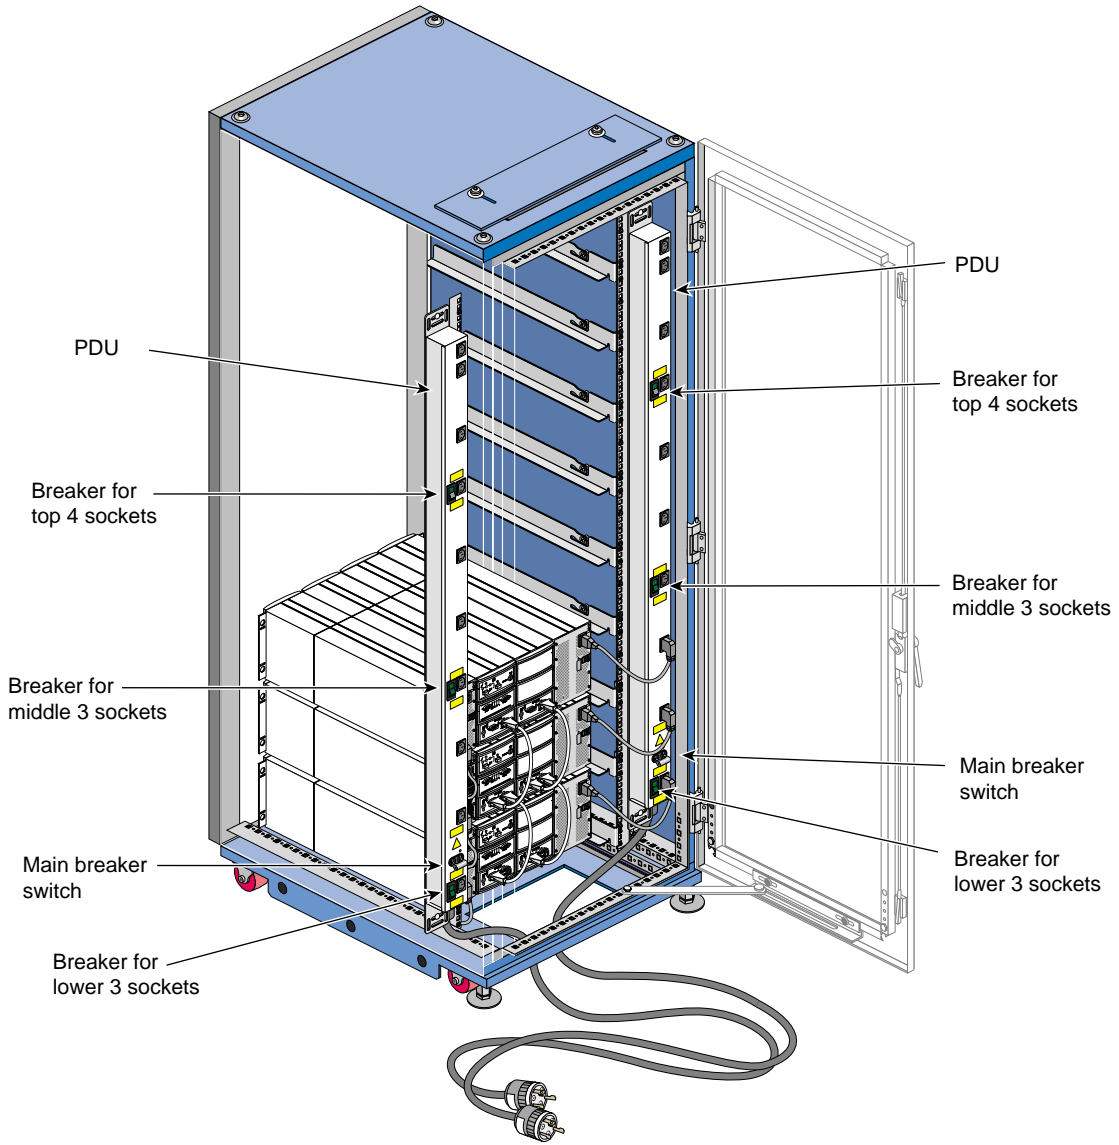

Figure 2-4 Rack Power Cabling
The rack requires 220 volts and is shipped with a country-specific power cord for each power distribution unit (PDU) that the rack contains. Each power supply of each enclosure in the rack is cabled to the rack PDU on the appropriate side; Figure 2-4 shows an example.
4. If necessary, connect each PDU power cord to a power source. The PDU power cords can be routed through an aperture at the top or the bottom of the rack. See Figure 2-4.
Besides the main breaker switch at the bottom of each PDU, the rack PDUs have breaker switches at each 12U of space so that you can power off three enclosures and leave others powered on. Figure 2-4 points out their location.